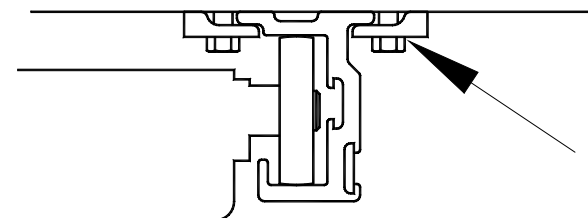

Figure 21
2. Check that the rail mounting hardware has not become loose. See Figure 21.